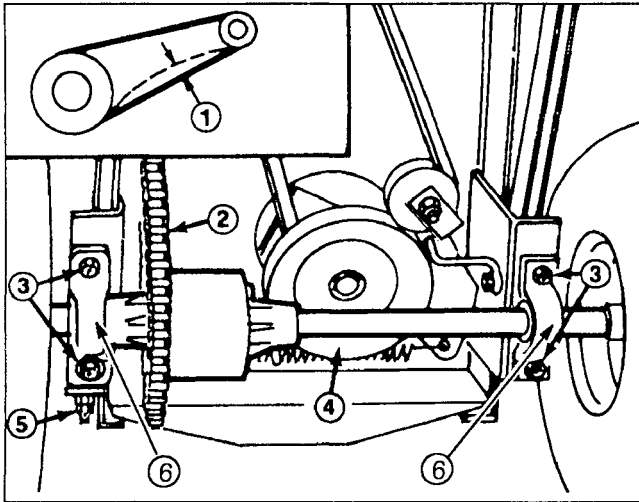

Figure 26
1. Check deflection of drive chain by lifting up on chain with moderate pressure at mid span (Fig. 26). There should be 1/8 of an inch (3 mm) deflection (Fig. 26). If deflection is not as specified, an adjustment is required — steps 2-6.
2. Loosen four flange nuts securing pillow blocks w/ differential axle to the rider frame (Fig. 26).
5. Since differential axle must be parallel to rear of chassis, measure distance from center of pillow blocks to rear of chassis (Fig. 26). Difference between the two measurements must not exceed 1/4 inch (6 mm). If difference exceeds 1/4 inch (6 mm), differential axle is not parallel with chassis; therefore left side must be repositioned to attain desired dimension. Tighten locknuts securing left pillow block to rider frame.